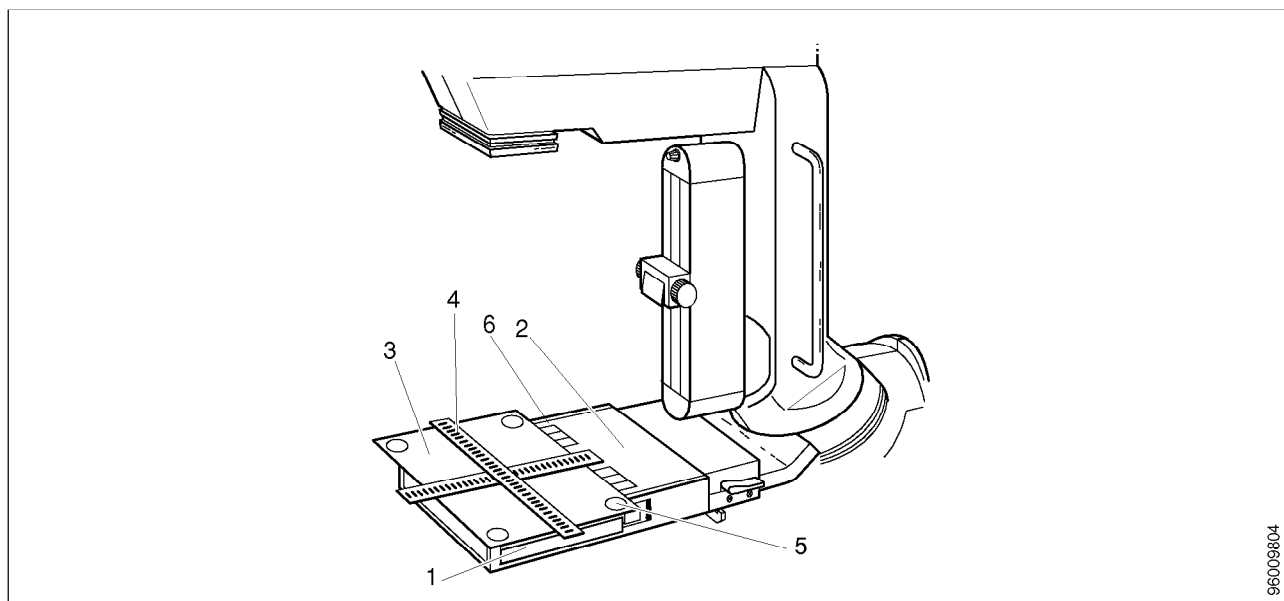

Fig. 1
- The radiation field may not exceed the front edge of the film marking device (6/Fig.1).
- Insert a film packet, centering it in the cassette (1/Fig.1).
- Insert the cassette (1/Fig.18) in the object table (2/Fig.1).
- Place the film bag on the object table (3/Fig.1). It must extend a minimum of 10 mm beyond the edge of the chest wall.
- Place the centering cross (4/Fig.1) on the film bag or on the cassettes.
- Switch on the light localizer and mark the edges of the light field with four washers (e.g. coins) (5/Fig.1). Record the distance of the centering cross (scale values) to the side edges of the object table and the front edge of the film marking device (6/Fig.1).